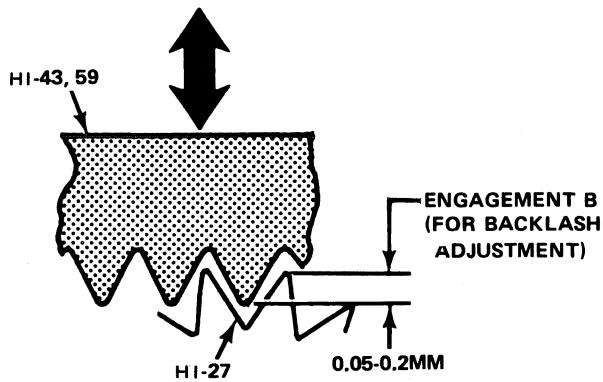

Figure 5-6. BACKLASH ADJUSTMENT, BEVEL GEAR (HI-43, 59)
*When performing the next two steps, adjust one set of gears for proper backlash, then move ribbon reversing rod (HI-92) in opposite direction (to engage gears) and adjust the other set of gears (HI-27, 43) or (HI-27, 59), repeating steps B1 through B2. (See Figure 5-6)*
2. Adjust bevel gear up or down on ribbon spool shaft (HI-38, 57) to obtain a vertical adjustment (engagement B) of 0.05 to 0.2 millimeters (0.002-0.008-in.) between the teeth of the opposing gears (HI-27) as they mesh (See Figure 5-6). Tighten allen-head screws on bevel gear (HI-43, 59).